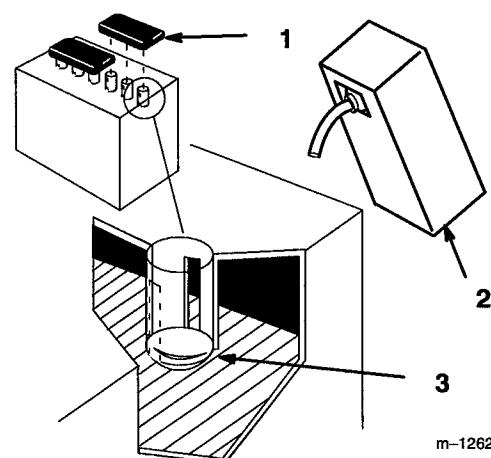

Figure 5
2. Remove filler caps from the battery. Slowly pour electrolyte into each cell until the electrolyte level is up to the lower part of the tube (Fig. 5).
- Slowly pour electrolyte into each cell until the level is once again up to the "UPPER" line on the battery case (Fig. 5) and install covers.